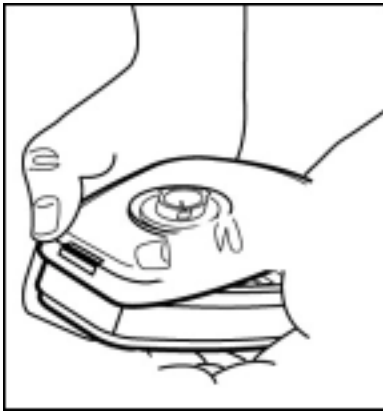

Fig. 5
1. Align adapter over cartridge. Engage front snap by squeezing front of cartridge and adapter together, placing thumbs of both hands over top of adapter and fingers along bottom sides of cartridge. (Fig. 5)